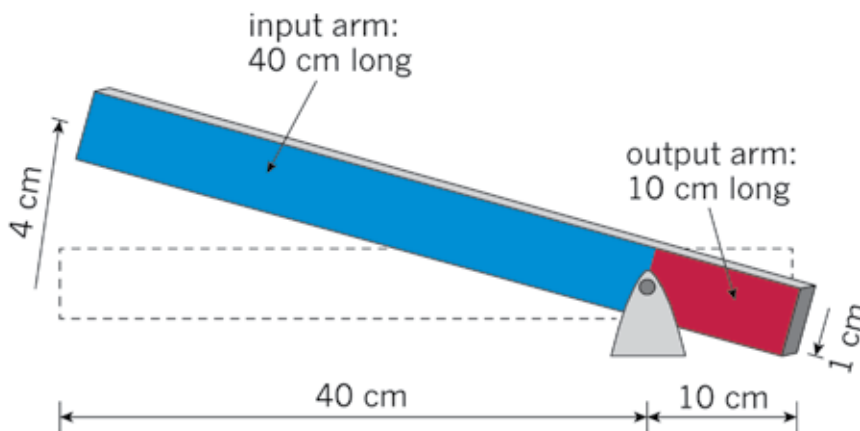

Figure 2: This lever has two arms: an input arm in blue and an output arm in red.
Look at the lever in Figure 2. This lever is making the output force bigger, so you can say that it is giving us a mechanical advantage. There are two “arms” on a lever: the **input arm** and the **output arm**. The lever below shows the input arm in blue and the output arm in red.
4. Now you can confirm what you have already worked out. Use the values in Figure 2 to calculate the ratio of the length of the output arm to the length of the input arm.
5. Use the values in Figure 2 to calculate the ratio of the output distance to the input distance.